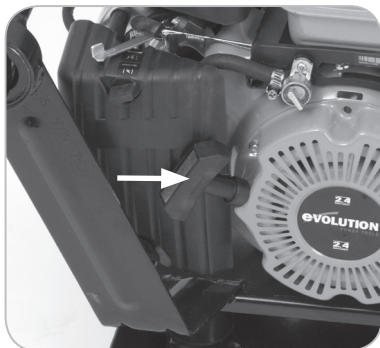

Fig. 8
- Use your other hand to grip the recoil starter cord handle. **(Fig. 8)**